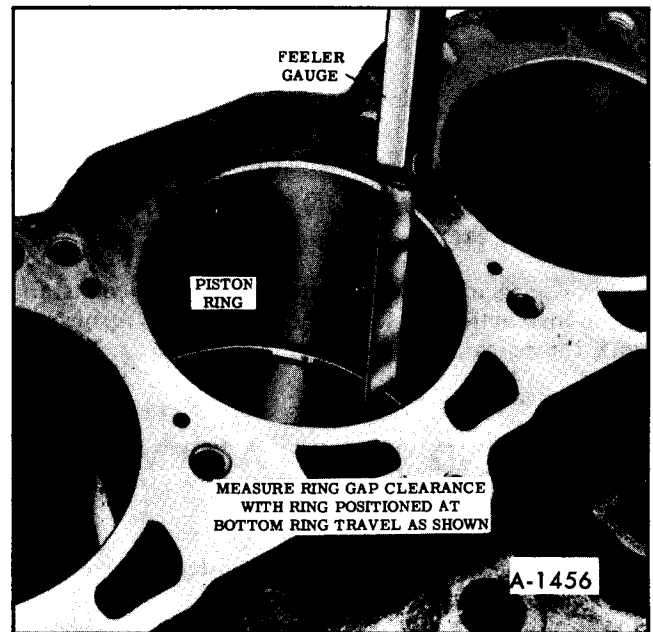

Figure 49—Measuring Piston Ring Gap
Each ring and rail gap must be measured with the ring or rail positioned squarely and at the bottom of the ring-travel area of the bore. See Figure 49.
2. Install harmonic balancer on crankshaft (Figure 49). Use tool J-24724.